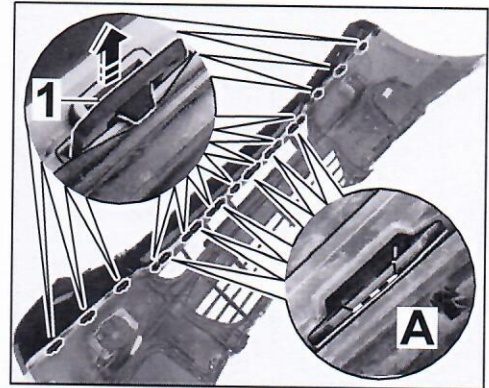

Figure 12
- 2.5.1 Get another mechanic to help you to position the front spoiler in the gap on the front apron and press it on evenly until the retaining lugs (⇒ *Figure 12* -**arrow**-) lock securely.